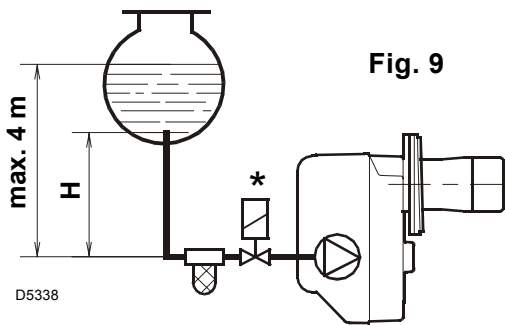
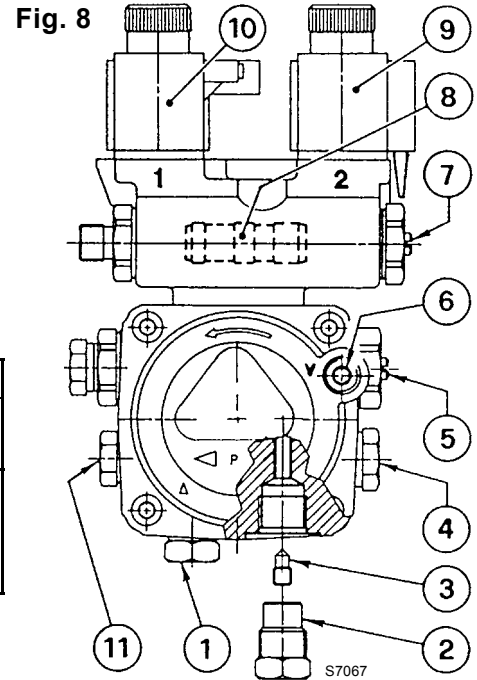

Fig. 9
Fig. 8
- The pump is designed to allow working with two pipes. In order to obtain one pipe working it is necessary to unscrew the return plug (2), remove the by-pass screw (3) and then screw again the plug (2). (see fig. 8).
On the system in fig. 9 it is sufficient to loosen the suction gauge connection (6, fig. 8) and wait until oil flows out.